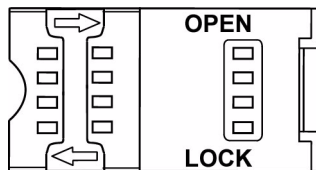

Figure 11 MSAM Cardholder Lock Plate Detail
- a** Unlock the cardholder: Slide the lock plate to the unlocked position, in the OPEN direction (Figure 11).
- 7 Lock each MSAM cardholder by sliding its locking plate towards the LOCK arrow until the plate stops (Figure 11).